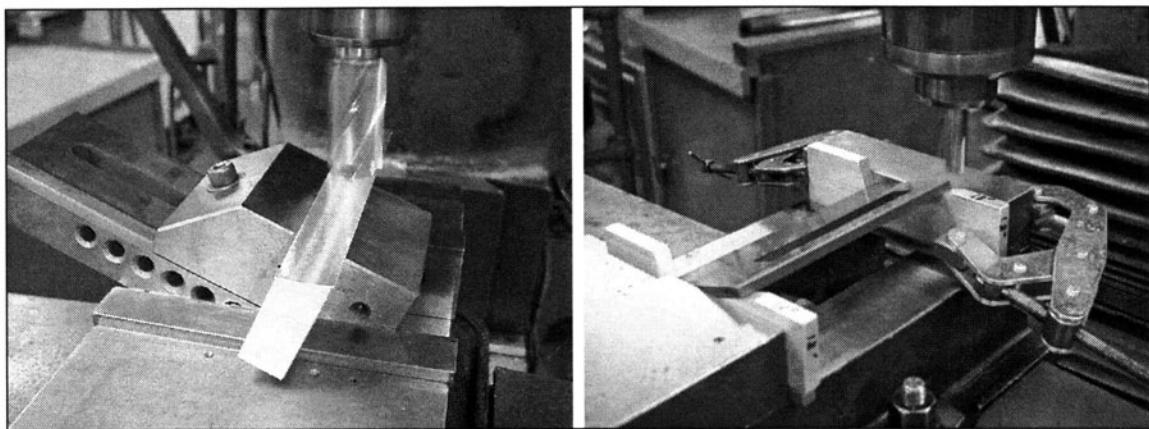

FIGURE 3-26 Two setups are shown that can be used to make angle cuts. You should avoid tilting the head of a mill when possible.
39. Cut an angle on the edge of a plate without tilting the head of your milling machine. (See Fig. 3-26)